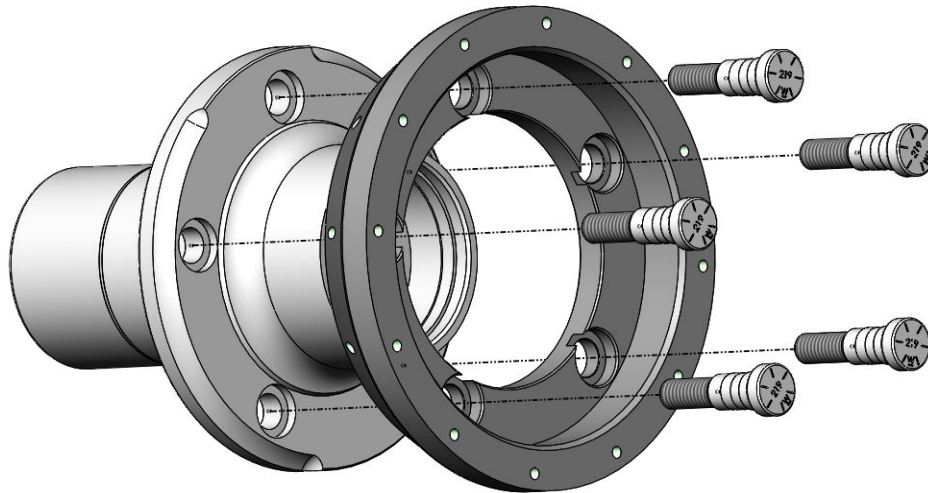

Figure 1 – Center Hat Installation
5. Place the hub downward and center the rotor on the backside of the hub. Install the provided wheel studs through the aluminum center hat and the factory hub. Once positioned, press each wheel stud into place. Be sure and support the hub when pressing the studs into place. Figure 1 on the next page shows the components being assembled.